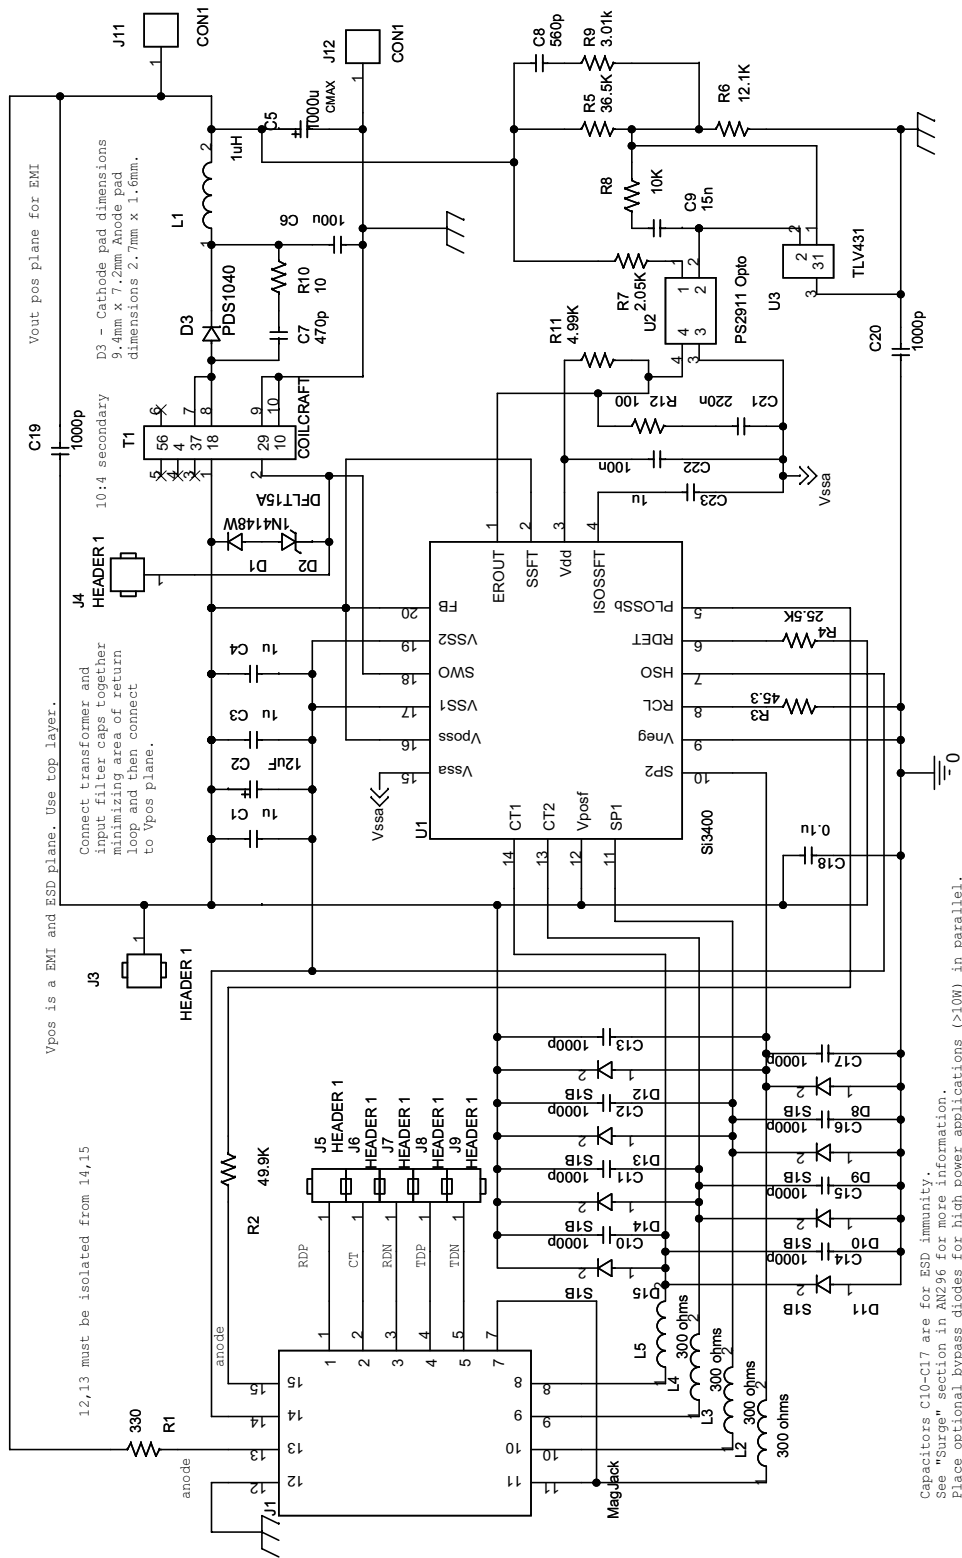

Figure 1. Si3400/01 Schematic—5 V, Class 3 PD
The board itself has no Ethernet data transmission functionality. The dc output is at connectors J11(+) and J12(–). Boards are generally shipped configured to produce +5 V but can be configured for +3.3 V or other output voltages as shown in Table 1 on page 9. The Si3400ISO-EVB and Si3401ISO-EVB board schematics and layout are shown in Figures 1 through 6. The evaluation boards for the Si3400 and Si3401 are essentially identical; the only differences being that the diode bridges are bypassed (populated) and that the PD controller on the Si3401ISO-EVB is the Si3401.
- g. Based on your required PD power level, select the appropriate class resistor value by referring to Table 2 of AN296. This sets the Rclass resistor (R3 in Figure 1 on page 2).